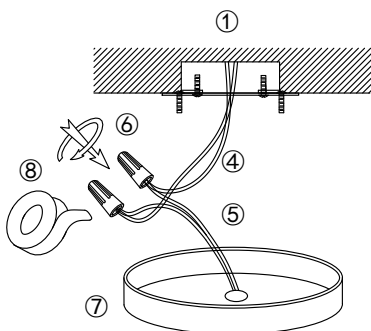

Fig 3
Step 1: Connect the fixture wires ⑤ to the house wires ⑥, black to live wire, white to neutral wire, green/yellow and green wire to ground wire (optional). Wrap the connectors with electrical tape ⑧ separately (Fig 3).